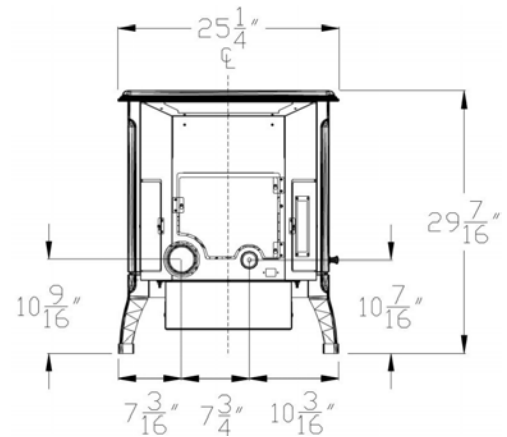

FIGURE 4
For a mobile home installation the stove must be connected to an outside source of combustion air. A 2" inside diameter metallic pipe, either flexible or rigid, may be attached to the inlet at the stove's rear (refer to figure 4). A rodent guard (minimum ¼" wire mesh)/wind hood must be used at the terminus (refer to figure 5). All connections must be secured and airtight by either using the appropriately sized hose clamp and/or UL-181-AP foil tape.
2. Locate position of hole in wall; directly behind stove exhaust vent (refer to figure 4).